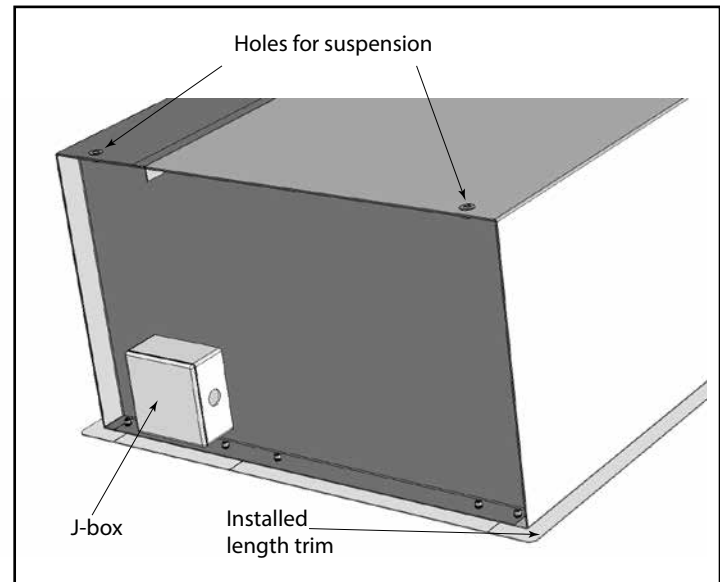

Figure 4
- A. The Architectural Recessed 12/16 series air curtain enclosure is equipped with four 13mm holes on the top of the unit for suspended mounting. **See Figure 4.**
See Figure 4.